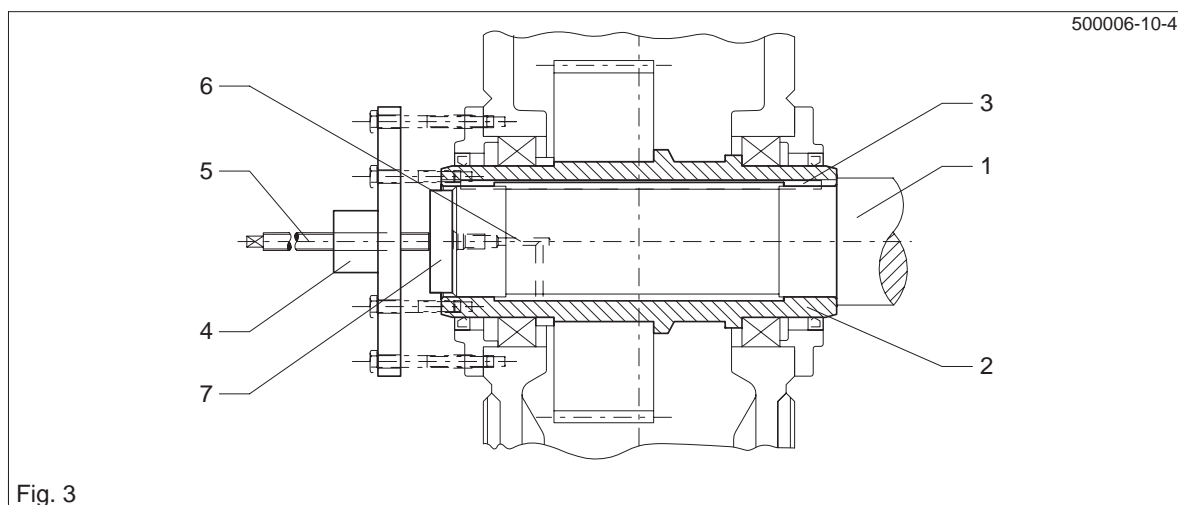

Fig. 3
- When the rust-releasing agent has taken effect, pull the gear unit off with the device as shown in figs. 3 or 4.
If the counterforce is provided not only by the hollow shaft, but also by the housing, as shown in fig. 3, the forces used must not exceed the values given in the following table.